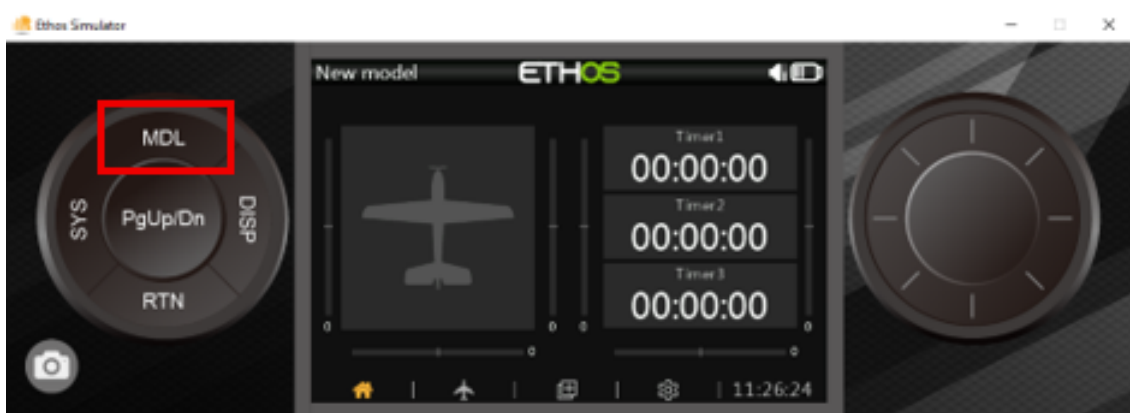

Figure 22: Main Screen
- Check model displayed on main screen is correct. (Figure 22)